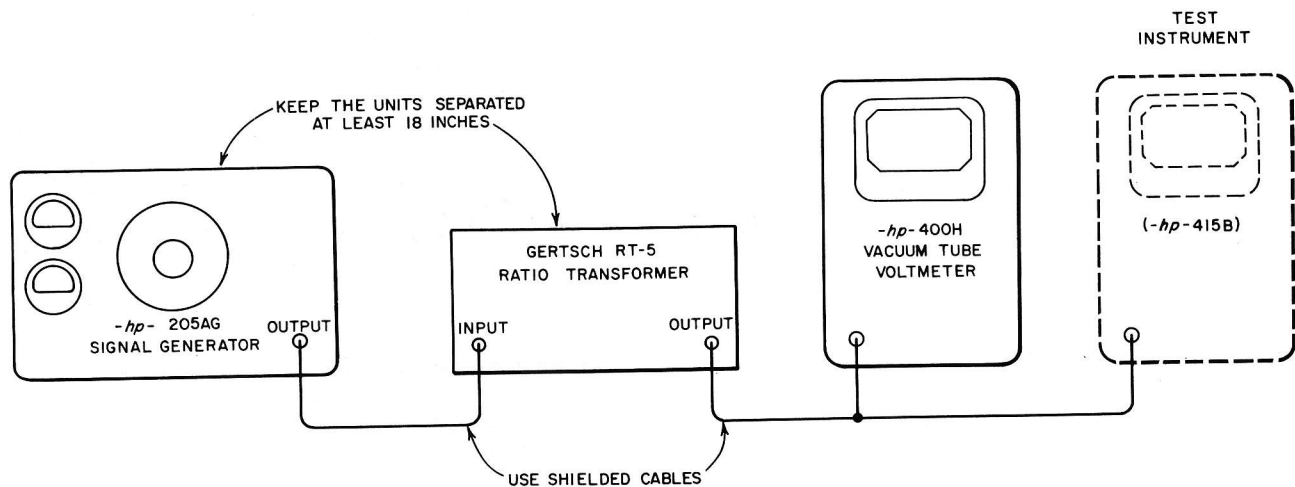

Figure 8-1. 415B Standing Wave Indicator Sensitivity, Ranging, and Tracking Calibration
1) Connect the equipment as shown in Figure 8-1.
- 1) Use the equipment setup shown in Figure 8-1, but omit the 400H Voltmeter.
- 1) Connect the equipment as shown in Figure 8-1 but omit the 400H Voltmeter.